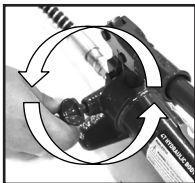

Fig.5
1. Once the product is assembled, open the Release Valve (9) by rotating it 1-1/2 turns, counter-clockwise (Fig 5).